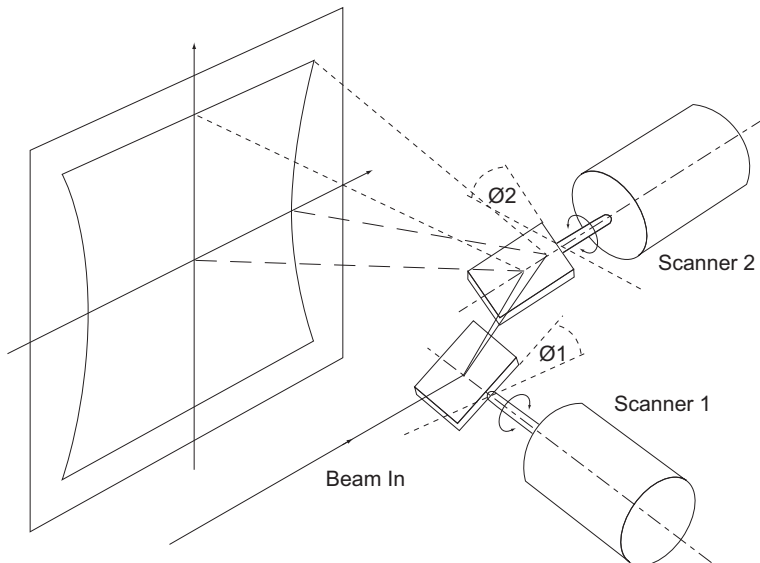

Fig. C.1 Field Distortion in a Two-way Mirror Deflection System
(1) The arrangement of the mirrors leads to a certain distortion of the image field – see Fig. C.1 below.